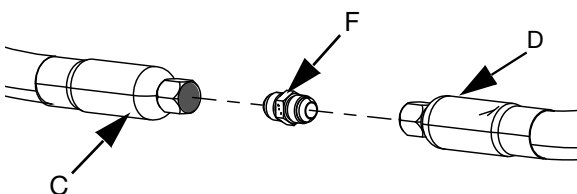

FIG. 24
- 6. If you are using two supply hoses (C and D), use the Supply Hose 1 to Supply Hose 2 Fitting (F) to connect Supply Hose 1 (C) to Supply Hose 2 (D). See FIG. 24.